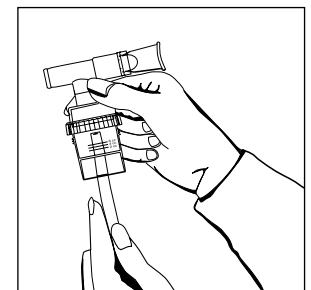

Figure 6
8. Attach tubing to nebulizer air-inlet connector (**Fig. 6**).